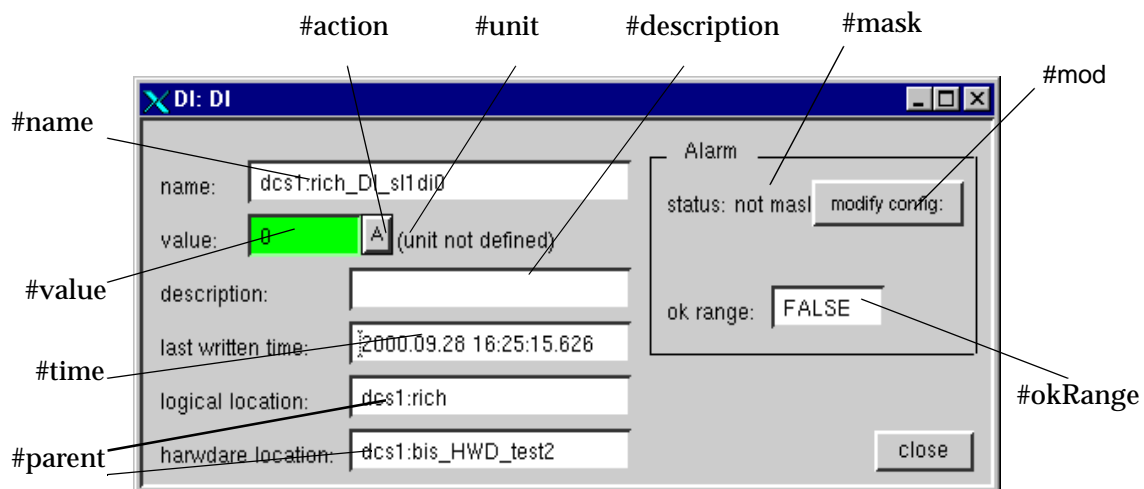

Figure 60: DI panel.
Shows the value of 'value' dpElement. The background color follows the rule: Background color convention (Figure 53) for leaf element. described above. E.g. in Figure 60 the background color is green: there is no alarm on the value. If the 'value' dpElement of the DI element does not have a peripheral address (Section "Peripheral address"), it is possible to set the new value for 'value' dpElement by typing new value to text field and pressing 'enter'.
Shows the okRange for defined alarm of the 'value' dpElement, e.g. in Figure 60 alarm will be generated when the value will be equal to TRUE (1).